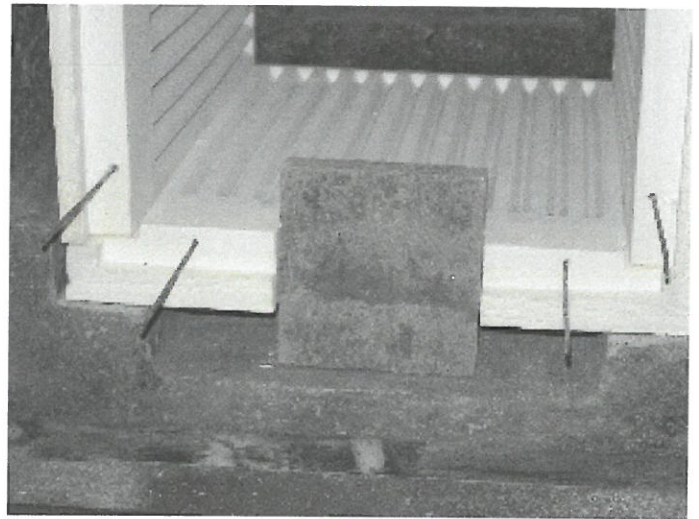

Figure 2
Step 7-Now holding the panels with both hands, place the bottom panel in position, then the left side, the right side, and finally the top panel, as shown in figure (1).
Step 8-Be sure to replace the hearth support brick(s) (shown in figure 2) prior to replacing the back panel. Cut the rear non-heating panel to fit within the 4 heating panels.